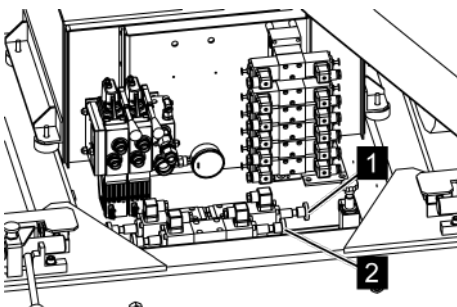

Fig. 126: Valves
4. ➤ For outrigger operation, lock the shuttle valve (Fig. 126/2).